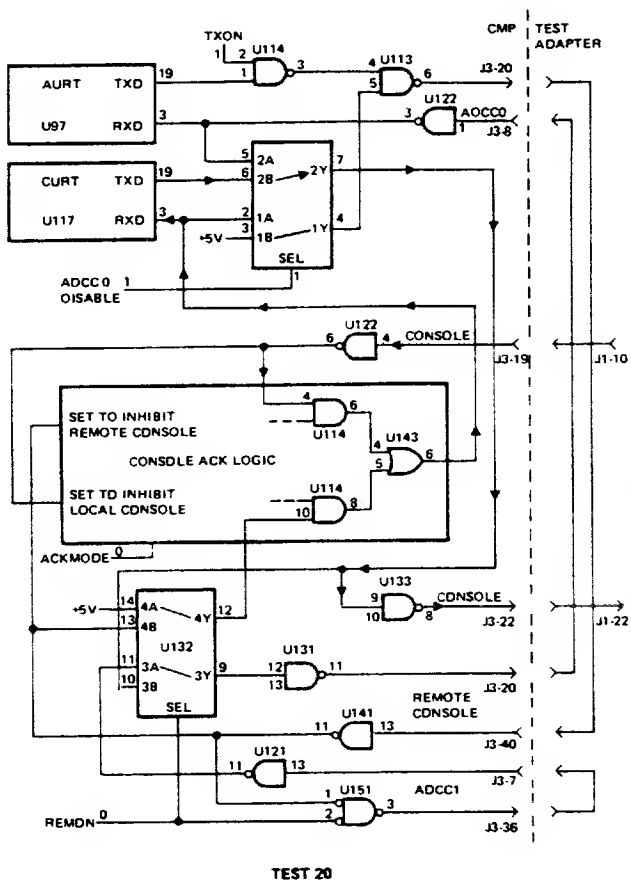

Figure 3-9. Data Comm Test Step 20
This test is divided into two basic sections. Steps 1-16 check RTS, DTR, REMON, and SPAREXMT outputs and the DSR, CTS, CD, and SPAREREC inputs. Figure 3-8 illustrates how the control signals are looped from output to input. Steps 20-28 check the RS-232C serial data paths. (See figures 3-9 thru 3-17.)
- 20 See figure 3-9.